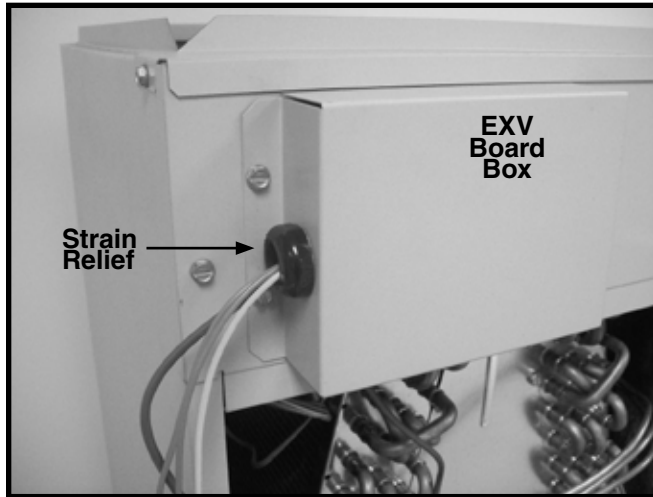

Figure 6. EXV Board Box
10. Route the following wires thru the hole in the EXV board box (Figure 6):
13. Connect the other end of the terminated wires to the Motor Control Board (Figure 6).
- Attach the yellow wire to the “Y/Y2_OUT” Terminal (3).
- Attach the red wire to the “R” Terminal (4).
- Attach the GREY wire to the “C” Terminal (5).